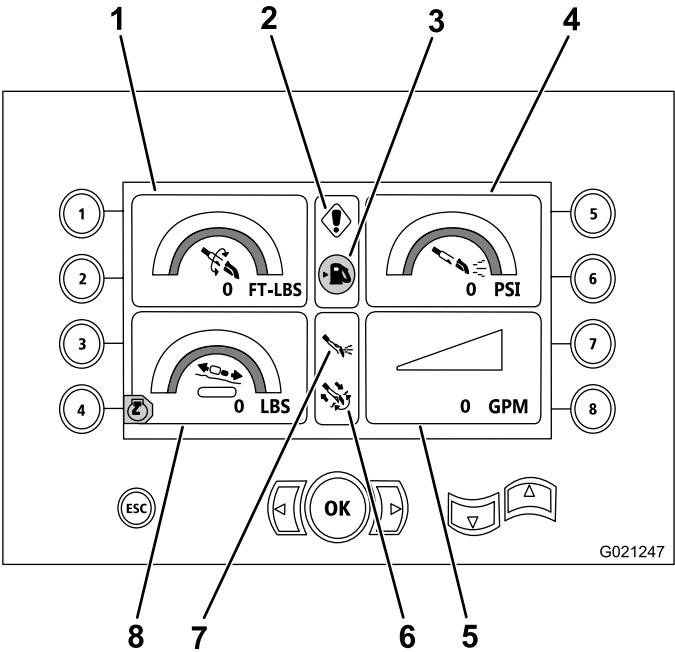

Figure 17
This screen provides measurements on rotary torque in ft-lbs, drilling-fluid pressure in psi, carriage force in lbs, and drilling-fluid flow rate in gpm (Figure 17).
- Drilling and/or engine-error code warning (Figure 17)
- Low-fuel warning (Figure 17)
- Drilling fluid is in the On position (Figure 17)
- Auto drilling is in the On position (Figure 17)